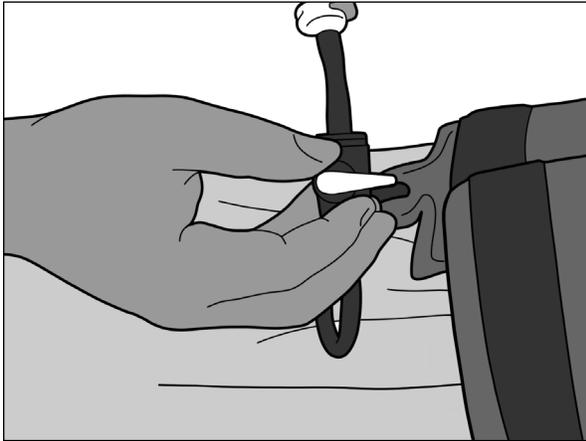

Fig. 20
1. Verify shutoff valve is perpendicular to tubing (Fig. 20).